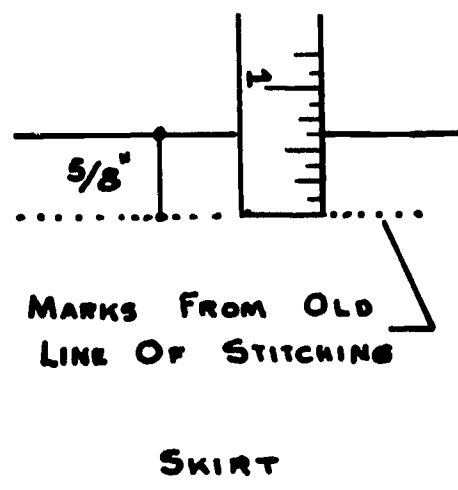

Figure 27.
5. Measure the distance from the old seamline to the edge of the skirt and record this measurement. This will serve as a guide when the seam is restitched (see Figure 27).